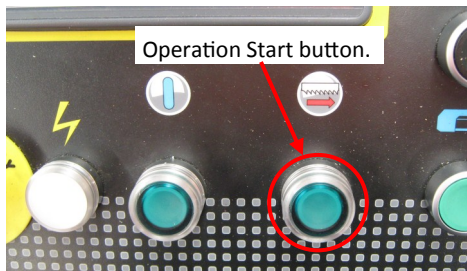

FIG 20.
- e) Press the “Operation Start” button. (Fig 20.).